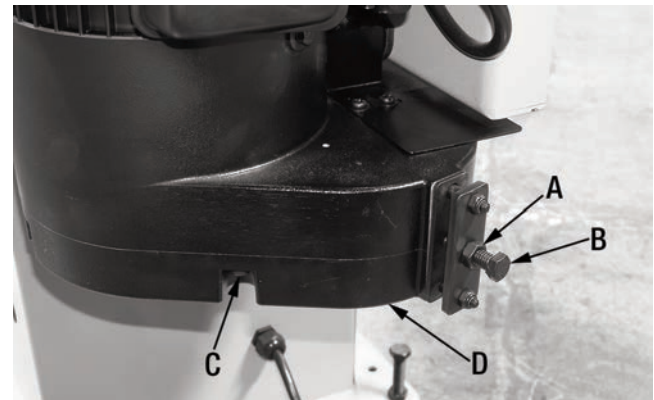

FIGURE 14
- 1) Loosen hex. nut (A) Fig.14.
- 2) Turn the hex. bolt (B) clockwise then retighten the hex. nut (A).
- 3) If a timing belt should break and replacement is required, loosen and remove four hex. bolts (C) under the motor assembly and remove the cover (D). Replace timing belt(s). Reinstall cover.